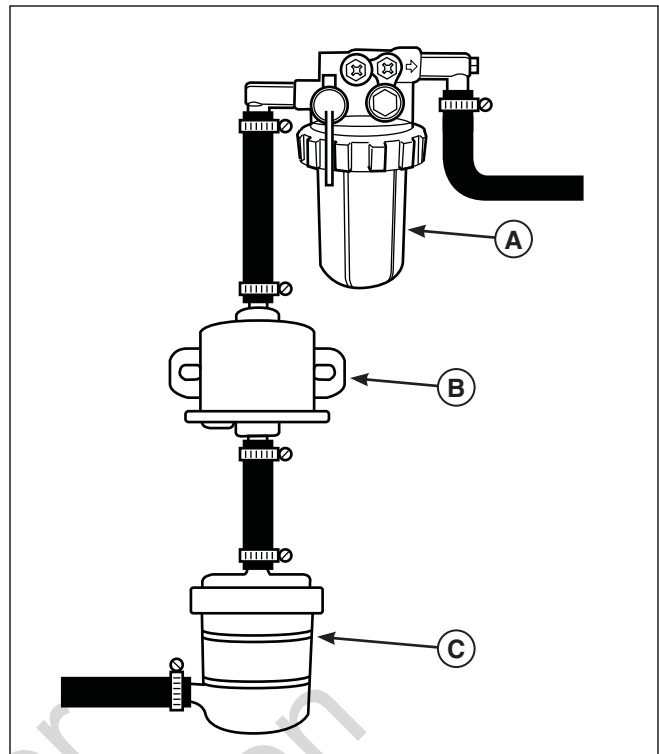

Figure 19. Replacing the Fuel Filter
This unit is equipped with two fuel filters. One is a water separator (A, Figure 19) and the other is a fuel filter (C). Both filters are located in the engine compartment on the right side of the engine. The water separator should be drained every 25 hours or whenever water is visible in the bowl. Replace both fuel filters every 500 hours of operation or as required.